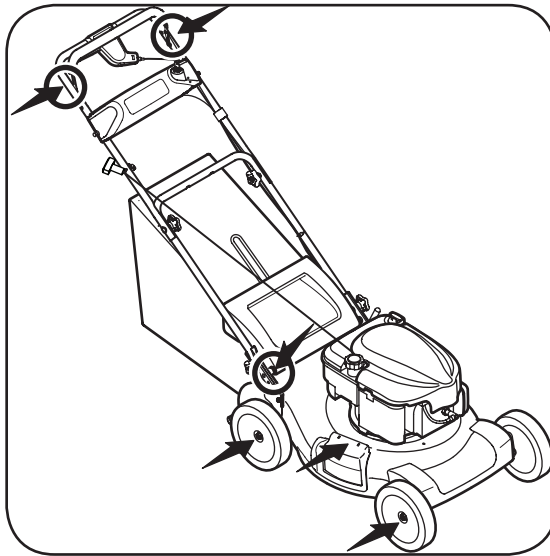

Figure 5-1: Lubrication areas on the mower.
1. Lubricate pivot points on the blade control at least once a season with light oil. The blade control must operate freely in both directions. See Figure 5-1.
3. Lubricate the torsion spring and pivot point on the rear discharge door and side mulch plug periodically with light oil to prevent rust. See Figure 5-1.